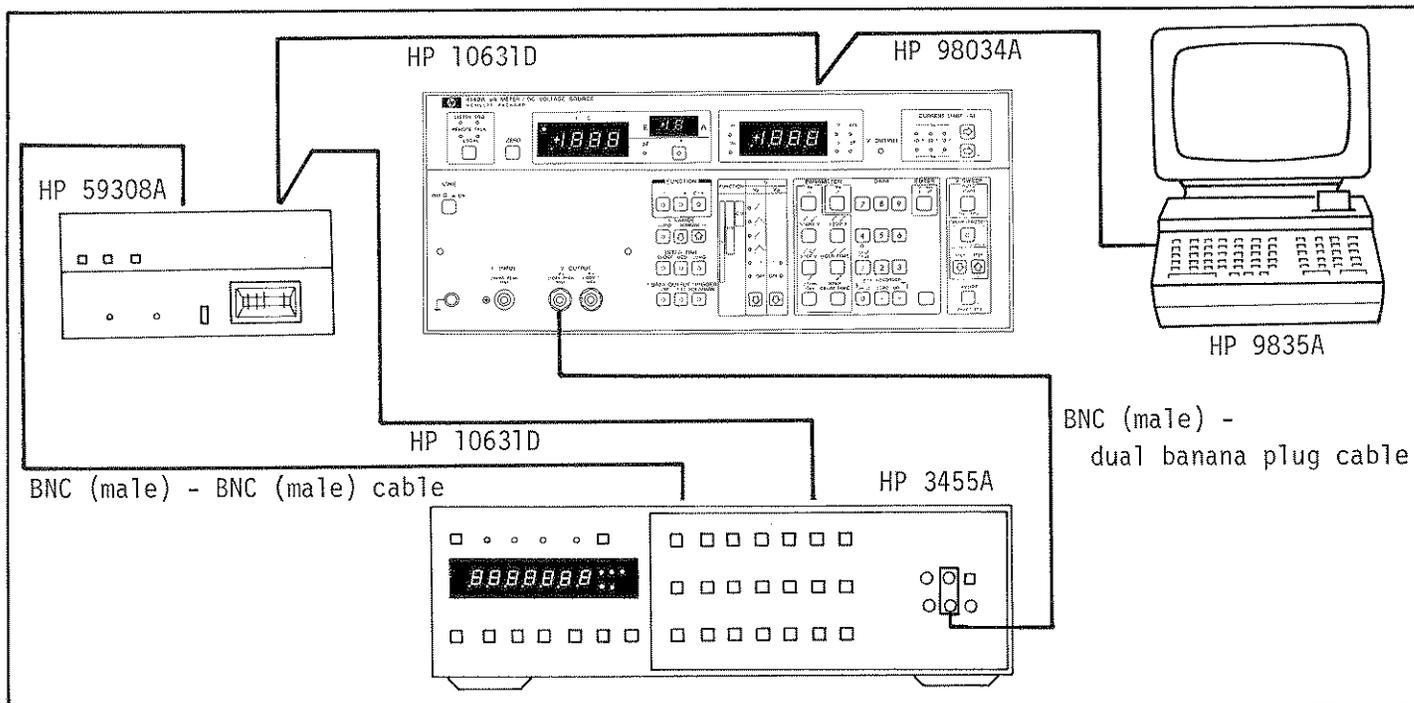

Figure 4-6. Ramp Rate Accuracy Test Setup.
3. Connect 98034A HP-IB Interface Card with Cable between 9835A I/O slot and 4140A rear panel HP-IB connector as shown in Figure 4-6.
7. Connect 4140A, 3455A and 59308A with 10631D HP-IB cables as shown in Figure 4-6.
8. Connect BNC (male) - BNC (male) cable between 59308A OUTPUT connector and 3455A EXT TRIGGER INPUT connector as shown in Figure 4-6.